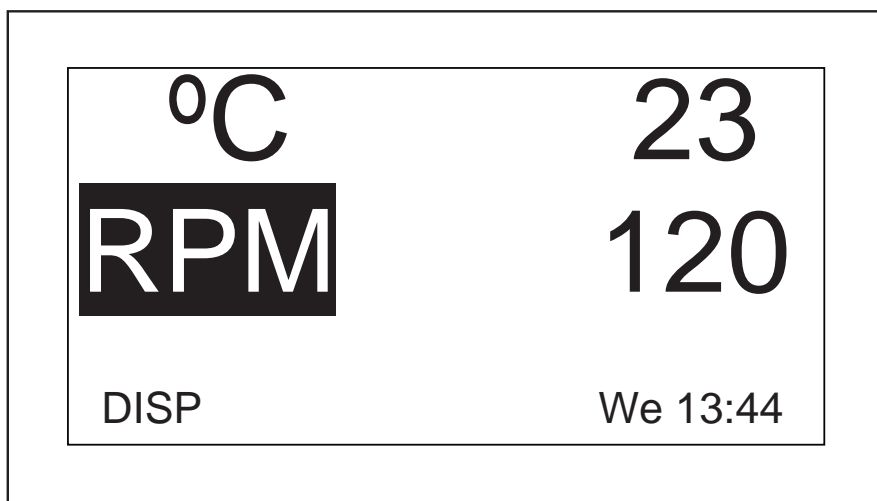

Fig. 9-1: Changing display parameter
1. Using the control knob, highlight the parameter that you wish to replace. For this example, we will replace *RPM* (see Fig. 9-1 on p. 48).